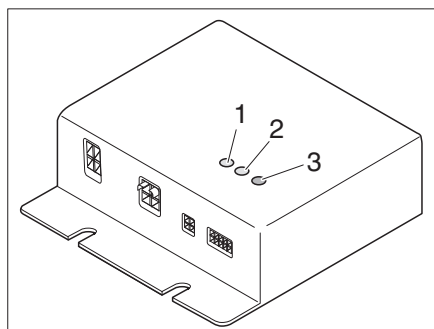

Fig. 104 Control unit
The control unit (Fig. 104) is installed in the wardrobe. The control lamps on the control unit have the following meanings:
- The indicator LED (Fig. 104,1) HC1 lights up in green: Heating circuit 1 is operating
- The indicator LED (Fig. 104,2) HC2 lights up in green: Heating circuit 2 is operating
- Fault LED (Fig. 104,3)